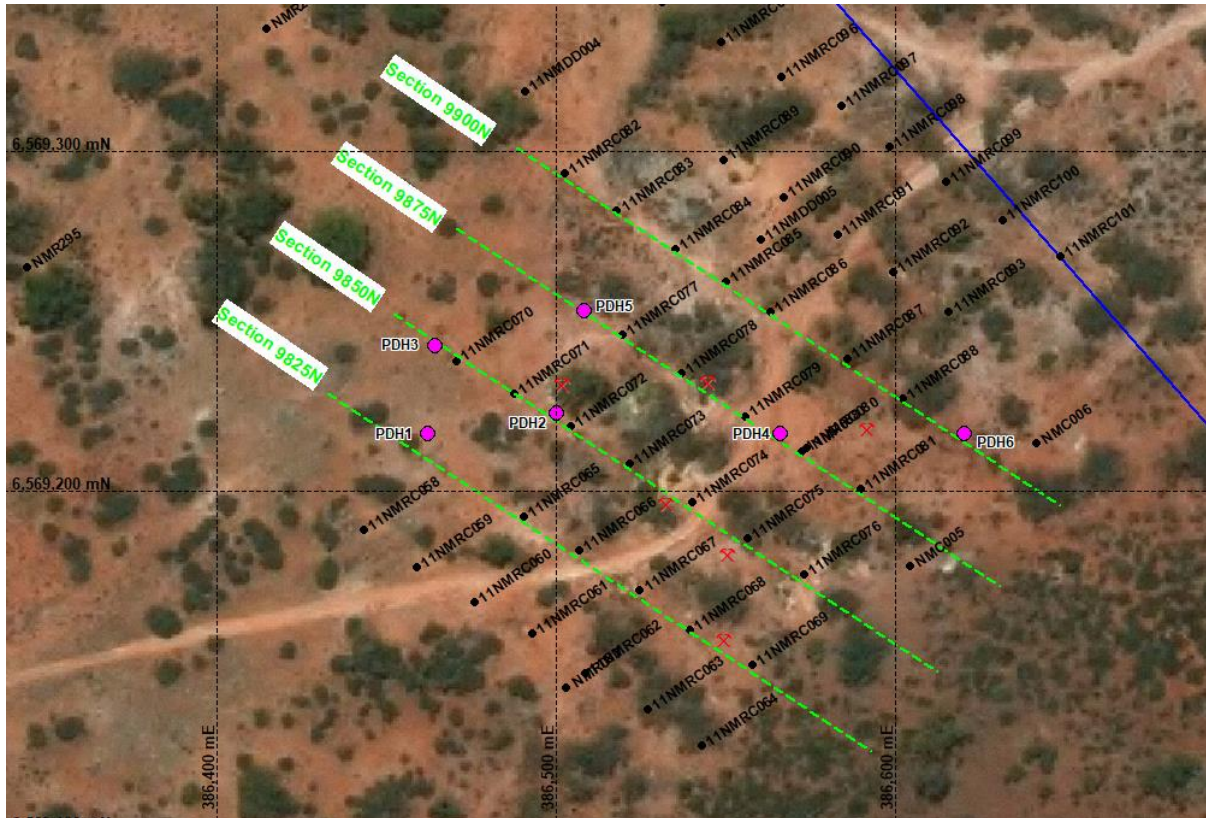

Figure 1: Location of the RC drill holes at the Providence Prospect.
The Company has completed the in-fill reverse circulation (RC) drilling program (Figure 1) at its Providence Prospect (Mt Monger North Project). The analytical results have been received from the lab and will be collated and reported in the next 7 – 10 days.